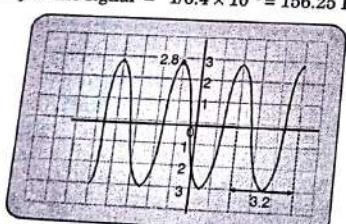

Fig. 7.15.4
- Fig. 7.15.4. A resistor is connected in series with a capacitor and an A.C. voltage is applied to the RC network.